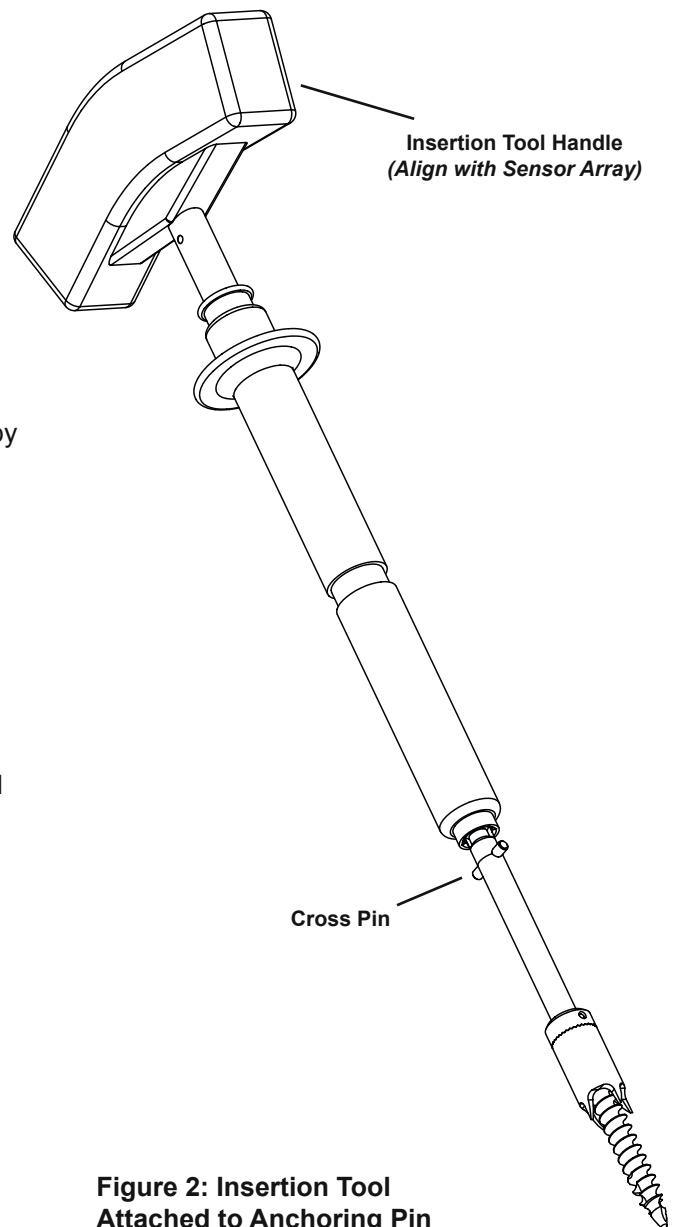

Figure 2: Insertion Tool Attached to Anchoring Pin
- Align the cross pin with the Insertion Tool Handle (fig. 2). Refer to the Instructions For Use supplied with the Pin.